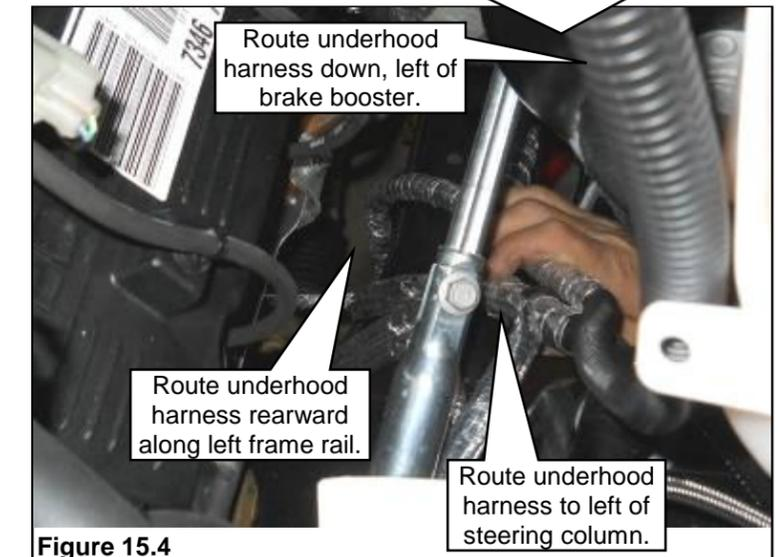

Figure 15.4
11. Route the lower end of the underhood harness with the 6-pin and 2-pin connectors down along the wheel well to the left of the steering column and back toward the left side frame rail. Following the Ford chassis harness. **Note:** Make sure to secure the ROUSH CleanTech underhood harness to keep it away from the steering column and other heated or moving components. **Figure 15.4.**